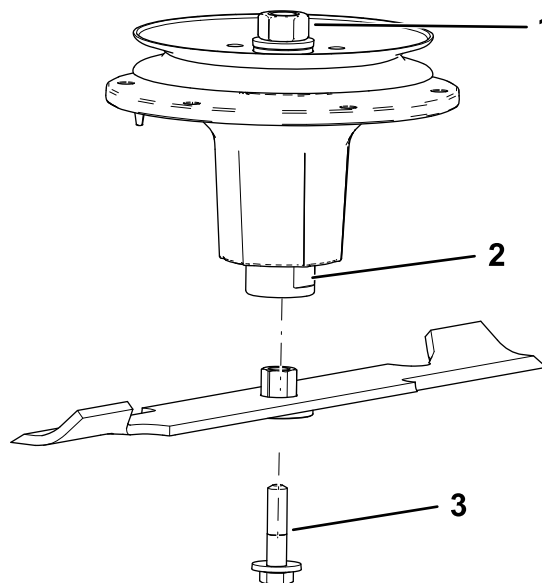

Figure 74
2. Install the bushing/blade assembly into the spindle shaft (Figure 74).